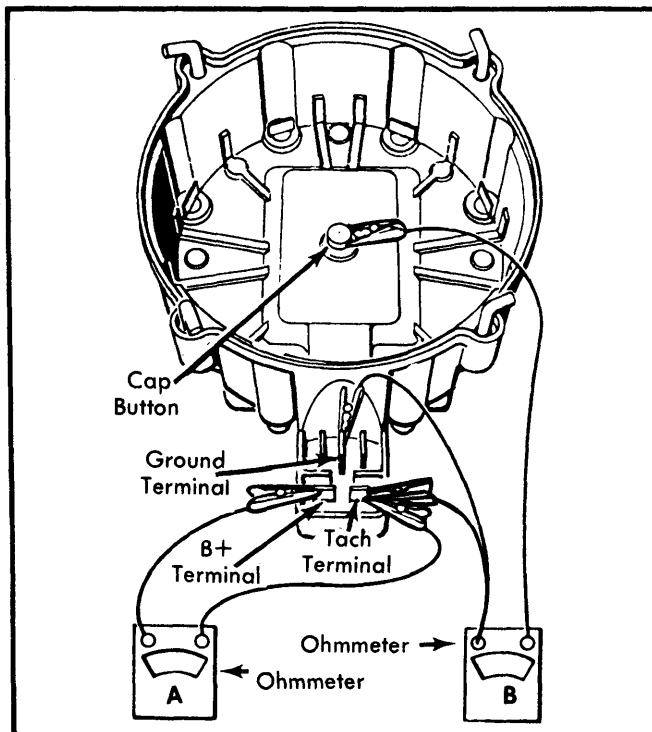

Fig. 3 Distributor Cap and Coil Testing Connections for Delco-Remy HEI Distributor (Integral Coil Only)
2) To test coil primary resistance, connect one ohmmeter lead to battery terminal on distributor cap (positive terminal external coils). See Fig. 3. Connect other lead to tach terminal of distributor cap (negative terminal on external coils). Ohmmeter reading should be 0.4-1.0 ohms. If not within specifications, replace coil.
3) To test coil secondary resistance, connect one ohmmeter lead to coil secondary contact (cap button on internal coils). See Fig. 3. Connect other lead to tach terminal. Ohmmeter reading should be infinity on integral coils and 6,000-30,000 ohms on external coils.